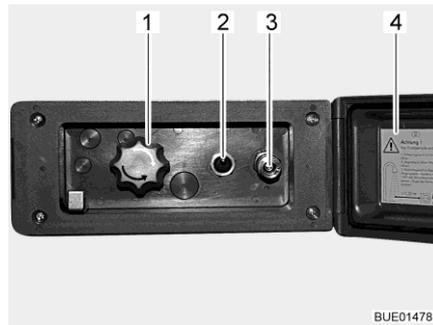

Fig. 98 External shower connection point
- Unlock and open the cover (Fig. 98,4).
- Attach hose of the external shower to the quick closure (Fig. 98,3).
- Switch on the water pump using the switch (Fig. 98,2).
- Adjust the water temperature with the rotary knob (Fig. 98,1) as desired.
- Switch off the water pump using the switch (Fig. 98,2).
- Close the cover (Fig. 98,4) and lock with key.
- Turn knob (Fig. 98,1) to the central position.